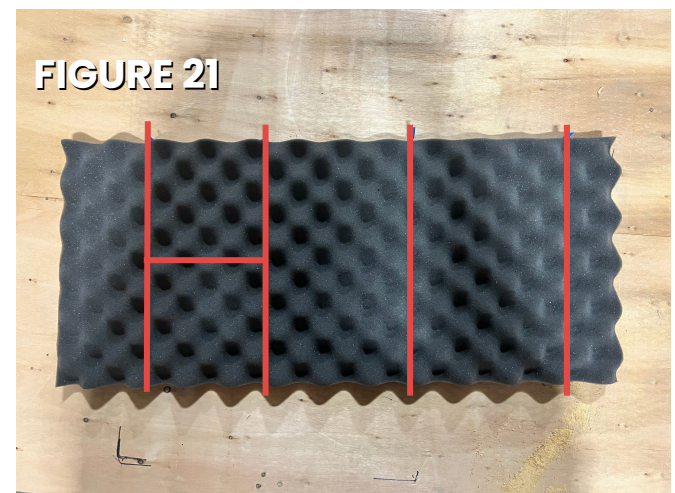

FIGURE 21
- c. Cut two 10.5" x 6.5" sections for the sides (*figure 21*)